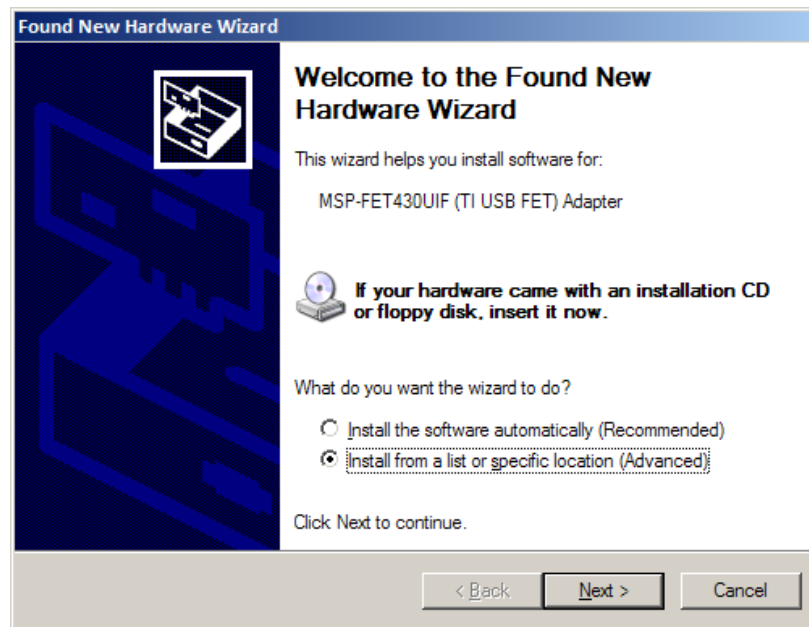

Figure 7. Hardware Wizard
5. Select "Install from a list or specific location [Advanced]" (Figure 7).